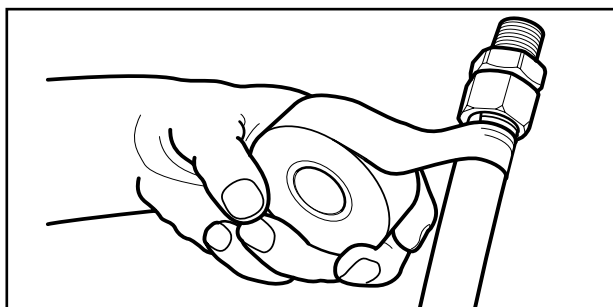

Figure: 4-17-Wrapping with self bonding silicone tape - begin on jacket.
- When installed outdoors, the plastic jacketing shall remain intact as much as practical for the given installation. Any portions of exposed stainless steel shall be wrapped with self bonding silicone tape sealing the fitting connection to prevent later corrosive attack by acid wash or chloride based compounds. Figures: 4-17 and 4-18.
room or exposed to a corrosive environment which may be harmful to the tubing, all exposed portions of the stainless steel tubing shall be wrapped with self-bonding tape. Figures: 4-17, 4-18.